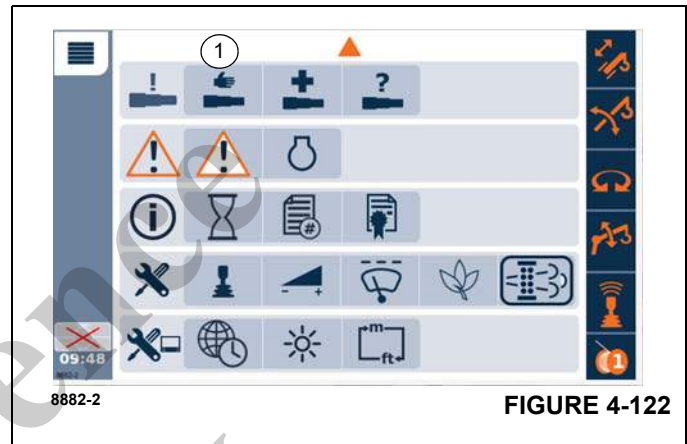

FIGURE 4-122
Open the Manual telescoping menu (1), (Figure 4-122).